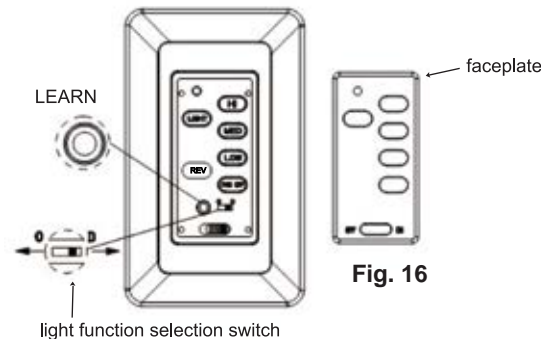

Fig. 16
ACTIVATING THE LEARNING PROCESS(Fig.16)
1. Use a small flat screw driver and gently pry the faceplate apart from the top of wall transmitter. (Fig.16)
2. After installation is complete, AC power is turned on and OFF/ON SWITCH is at ON position within 30 seconds, press and hold the LEARN button for 3 seconds. Fan will turn on at medium speed and light (if installed) will turn on. This confirms that the SMART SYNC setting is active and ok. (FIG.16)
LIGHT FUNCTION SELECT SWITCH(Fig.16)